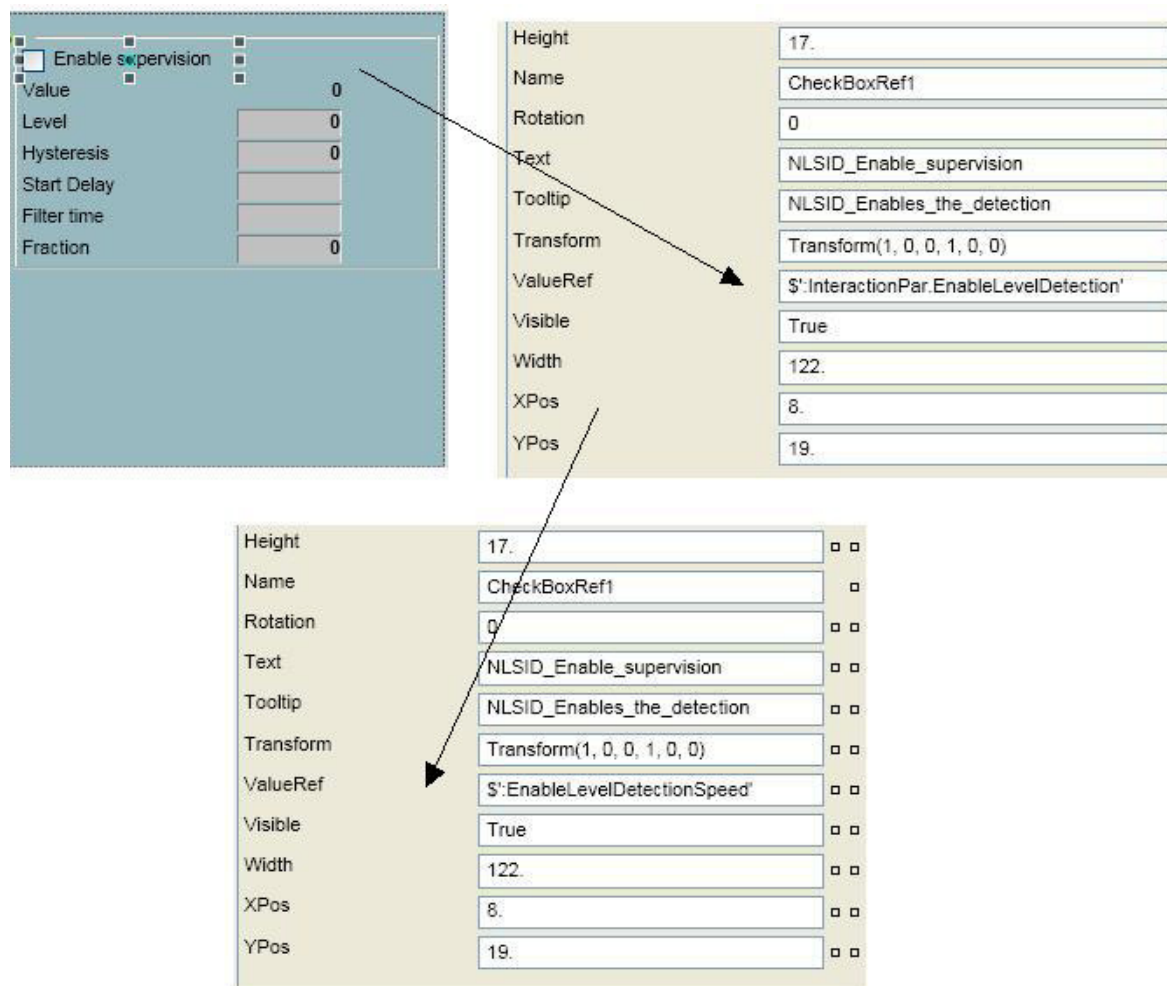

Figure 258. Changing the signals from EnableLevelDetection to EnableLevelDetectionSpeed
8. Reconnect the graphic (which is connected to signals in the LevelDetection function block) to the signals used in the LevelDetectionSpeed function block. The following steps, along with Figure 258, describe how to reconnect signals for the EnableSupervision graphic: